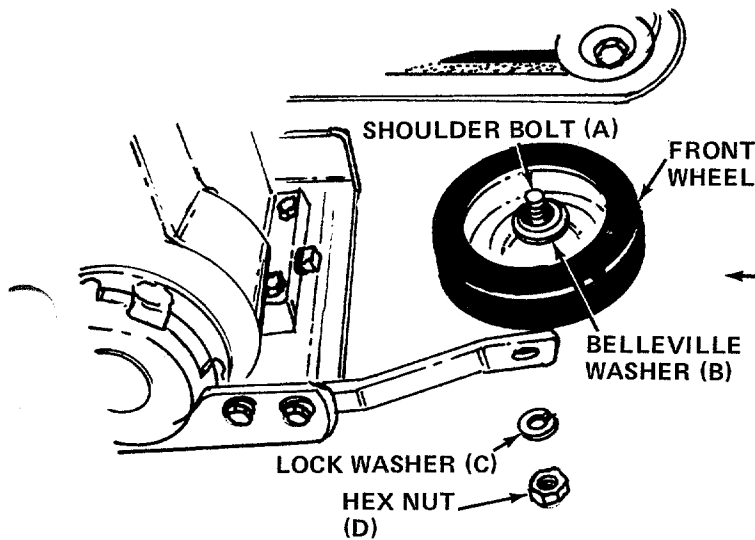

FIGURE 4.
5. Assemble the front wheel (O) as shown in figure 4. Place shoulder bolt (A) through wheel, then belleville washer (B) (between wheel and frame, cupped side against the frame). Secure with lock washer (C) and hex nut (D). See figure 4.